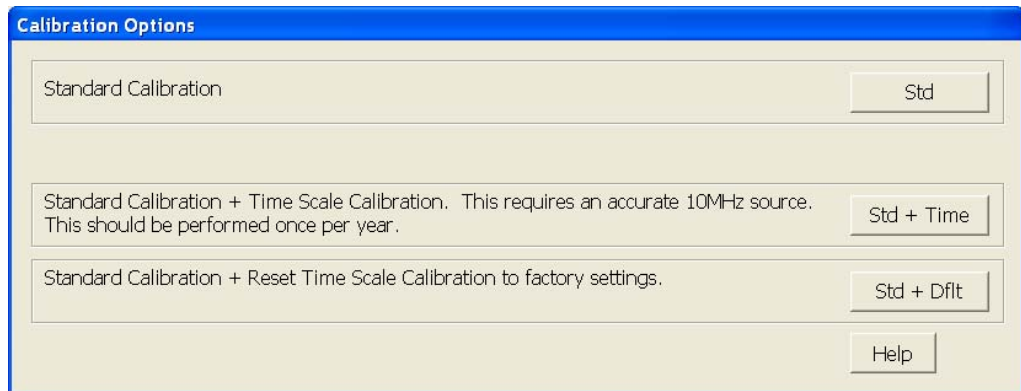

Figure 94 Time Scale Calibration Dialog box
- d During the calibration of channel 1, if you are prompted to perform a Time Scale Calibration, as shown in Figure 94 below.